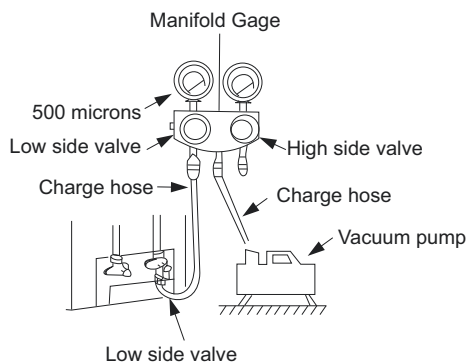

Fig. 10 —Manifold
3. Open (fully) the low pressure valve of manifold gage (see Fig. 10).